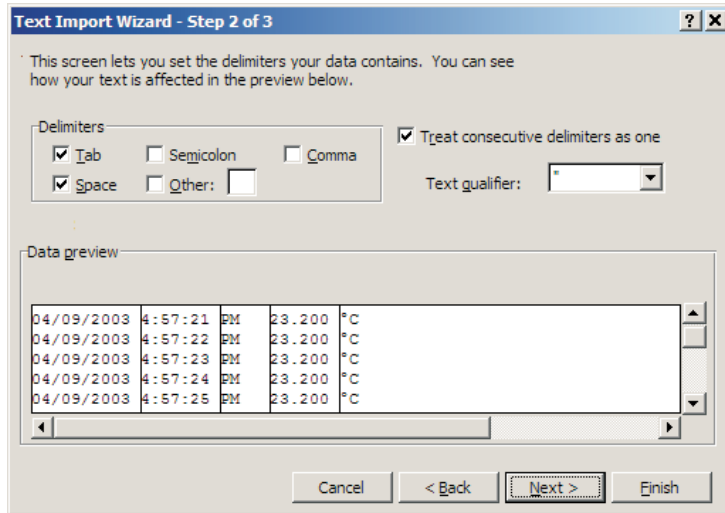

Figure 11 Text Import Wizard – Step 2 of 3 dialog
- The Text Import Wizard – Step 2 of 3 dialog appears, Figure 11.